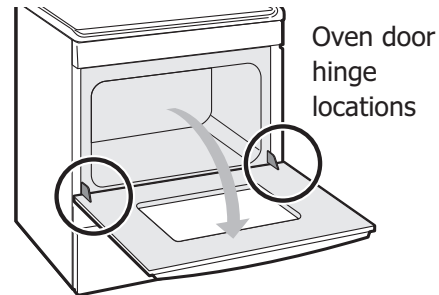

Figure 7: Door hinge location
3. Fully open the oven door, horizontal with floor (Figure 7).